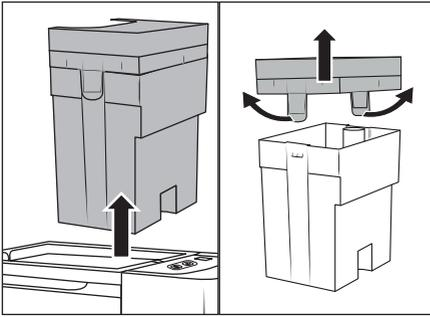

Fig. 7
- ◆ Hold the dirty water tank 7  by the handle of the lid 3 and pull it upwards out of the appliance (see Fig. 7).
- ◆ Pull the two retaining tabs slightly outwards and remove the lid **3** (see Fig. 7).